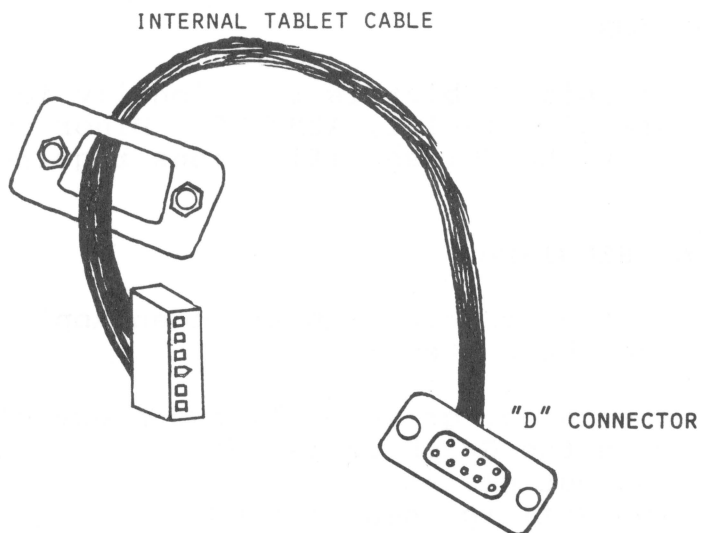

FIGURE 3
4. Now find the internal tablet cable (see Figure 3). It has a slip-on connector with six small holes on one end. Slide the slip-on connector through the other nut plate, making sure that the nuts are facing away from the "D"-shaped connector.